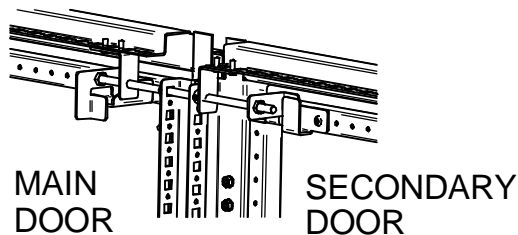

FIG. 4
D) Thread on one jam nut (Item 8) onto each end of the threaded rod (Item 1). Install the interlock plunger (Item 3) onto the main HME side and center it on the interlock engager (Item 4). Thread on other jam nut and tighten down both nuts. Make sure the plunger is in the orientation shown in fig. 4.
E) Install the interlock catch (Item 6) as shown in fig.4 and lock down with a jam nut.